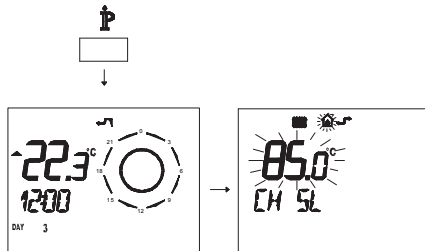

Fig. 7.25
- Press button  $\mathbb{P}$  for more than 3 seconds to enter in *INFO* (Fig. 7.25) mode.